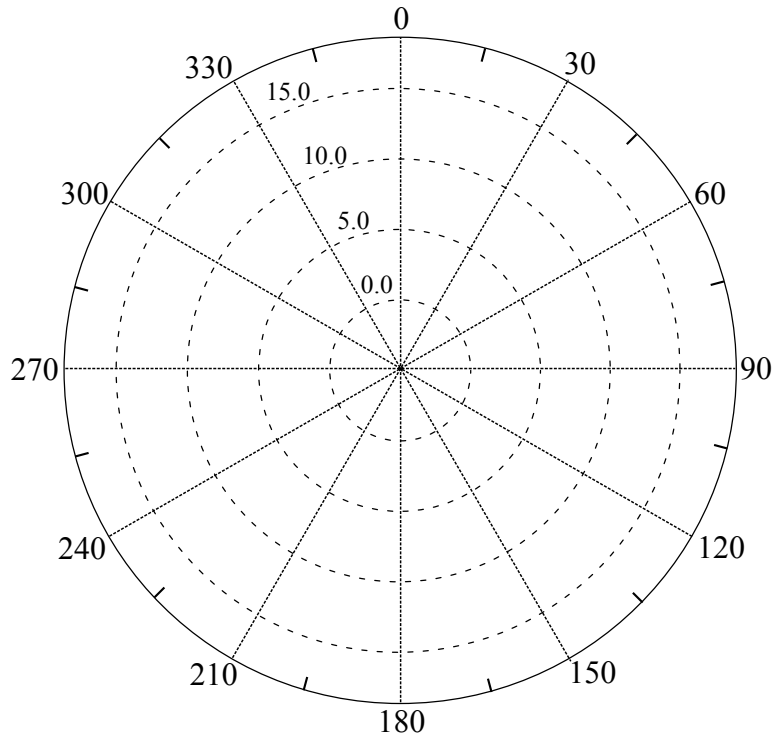

Figure 9: E-plane radiation pattern for microstrip patch antenna
13. Now the program starts to plot the radiation pattern point by point. When it is done, sketch the pattern you got in Figure 9 and 10 for E-plane and H-plane, respectively.